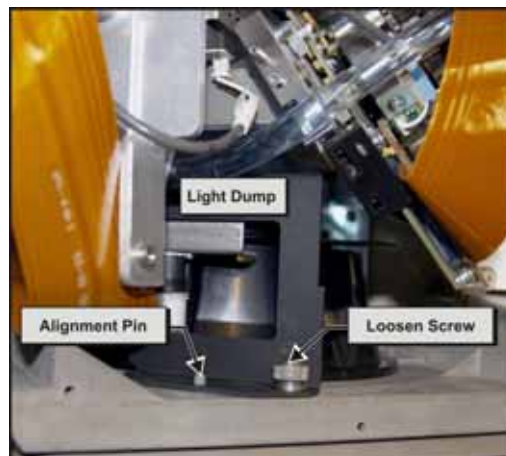

Figure 5-43 Remove Light Dump
4. Using a #1 Phillips™, loosen the captive screw securing the light dump (**Figure 5-43**).